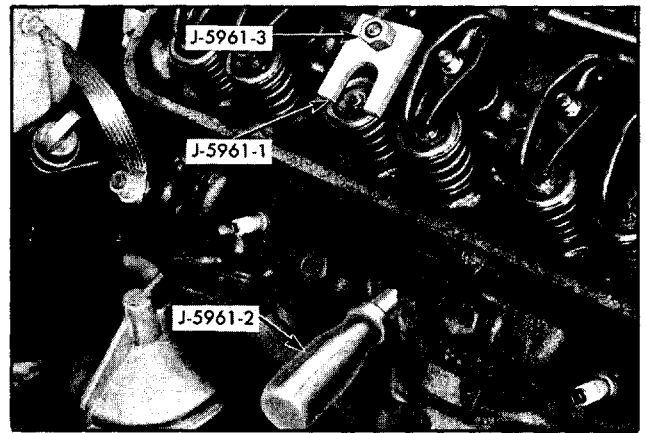

Fig. 6-17 Compressing Valve Spring
2. After removing rocker arm, oil rocker arm stud thread and compress valve spring using compressor J-5961-2 and nut J-5961-3 while holding valve up with Valve Holder J-5961-2 (Fig. 6-17). Remove valve spring retainer cup locks and then remove valve spring compressor, valve spring retainer cup and intake valve stem seal.